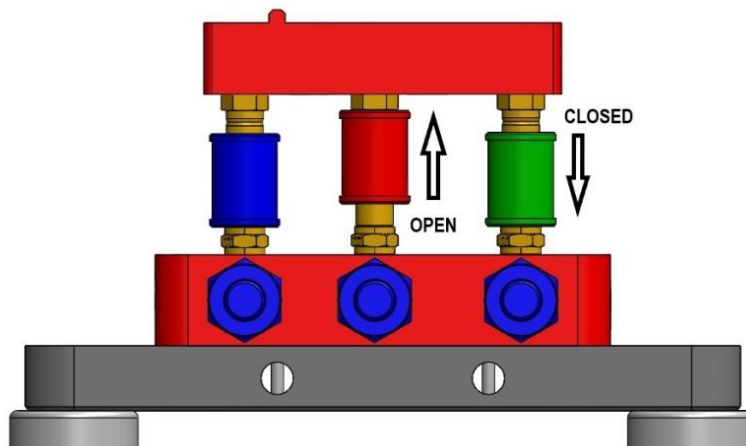

Figure 8: open vs. closed--the Red valve is OPEN, the Blue and Green valves are CLOSED
- A. Close all of the isolation valves on the ADIM manifold by sliding the colored valve sleeves down (Figure 8).
D. Open all of the isolation valves on the ADIM manifold by sliding the colored valve sleeves up (Figure 8).
E. Perform the aircraft manufacturer's test procedure. If a leak is detected during testing, close all of the isolation valves by sliding the colored valve sleeves down (Figure 8) and open them one at a time until the leaking adapter is identified. Tightening the knob on the pusher with a bit more torque may seal the adapter. Resolve any leaks before continuing. Further adapter leak evaluation is described in Section 4.
E. Close all of the isolation valves on the ADIM manifold by sliding the colored valve sleeves down (Figure 8).
F. Follow the Air Data Test Set leak test procedure. Open the isolation valves on ADIM manifold station connected to the adapter in question one at a time by sliding the colored valve sleeves up (Figure 8).